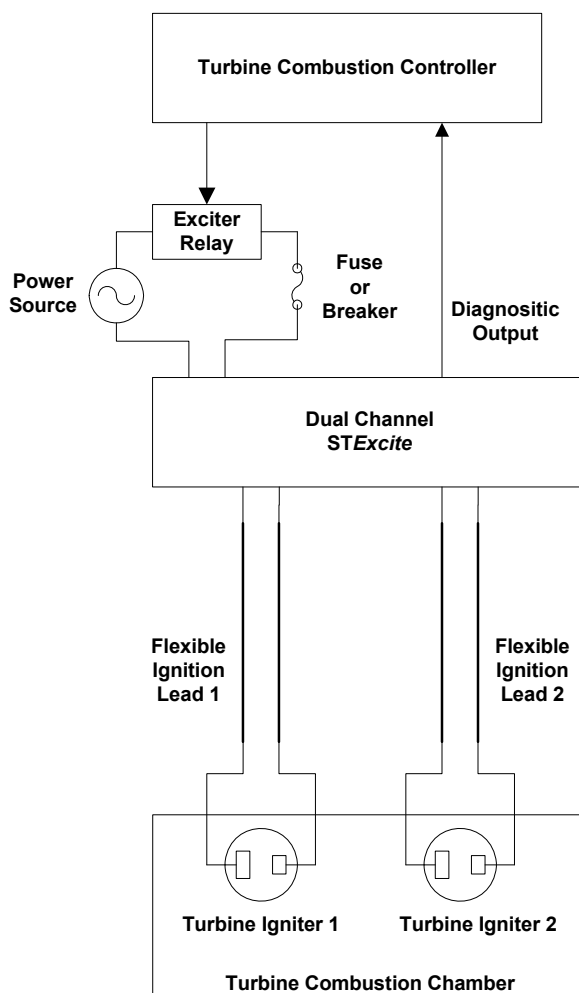

Figure 1-1. Turbine Ignition System
Figure 1-1 illustrates a typical turbine ignition system. The dual-channel exciter box is the interface between an intelligent turbine combustion controller and two turbine igniters in the combustion chamber. The exciter converts electrical energy in the form of 115 or 230 V (AC) into a high-current ignition pulse. The dual-channel exciter box is connected to the turbine igniters through flexible high-voltage leads. The dual channel exciter is a “normally on” device that outputs ignition pulses whenever input power is applied through an external exciter relay. The “ON” or “OFF” state of the exciter relay is controlled by the turbine combustion controller.